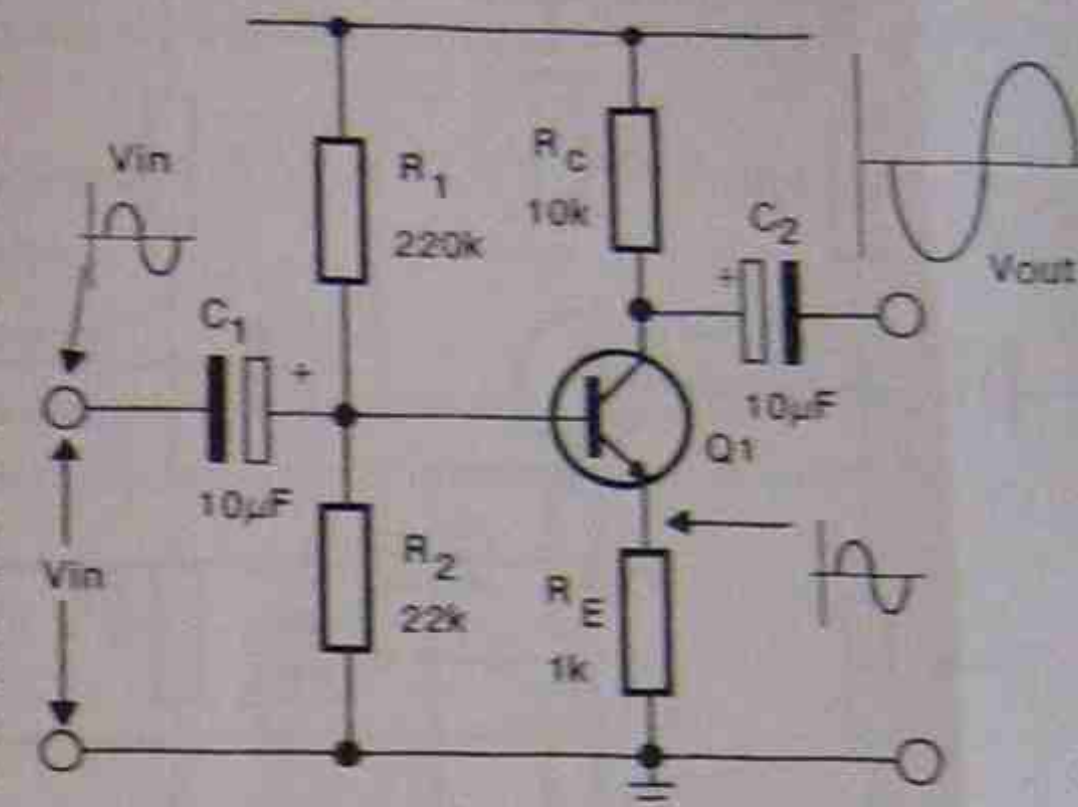

Fig. 2: AC and DC feedback with an emitter resistor
As already described, if an emitter resistor is included in the circuit of a common emitter amplifier, as shown in Fig.2, the gain is reduced unless this resistor is bypassed with a suitable capacitor. This resistor produces negative feedback in the amplifier in which:
- This type of feedback is called current-derived feedback, because the emitter (which equals collector) current has produced the feedback signal. Because the emitter resistor is relatively large compared to  $r_e$ , the gain of Fig.2 is  $(R_C)/R_E$ .
As for Fig.2, the feedback is current derived and the summer is the base-emitter of  $Q_1$ .